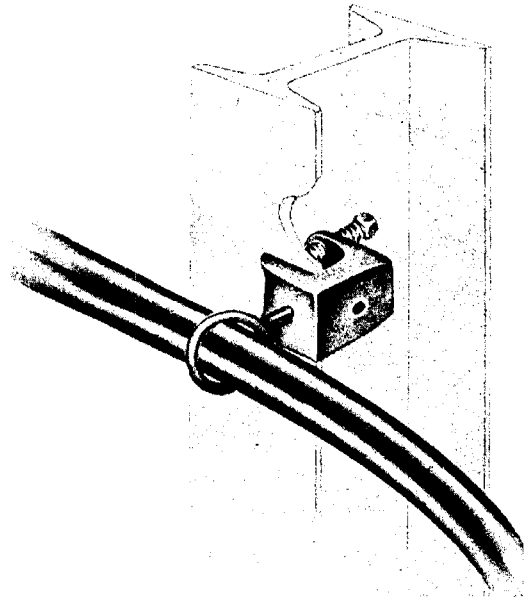

Fig. 9—B Insulator Support and Bridle Ring
- B insulator support (Fig. 9) will accommodate B or M bridle rings only. It can be attached to steel structures up to 3/4 inch in thickness.